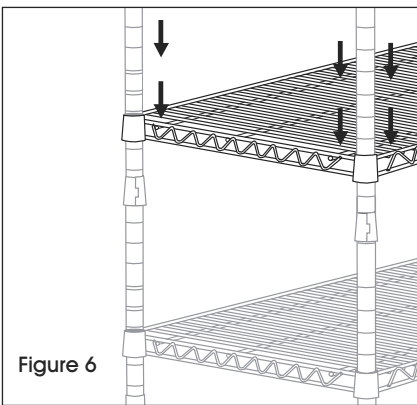

Figure 6
4. Determine the height of the next shelf, snap supports to post then add and secure shelf. Repeat for remaining shelves. (See Figure 6)